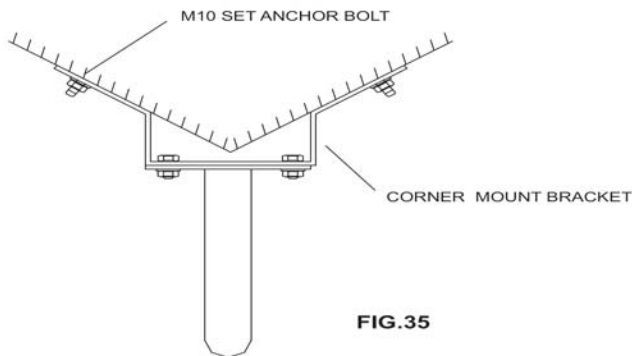

FIG.35
- G-4.** Screw the set anchor bolt of the bracket by nut on the wall. (FIG. 35)